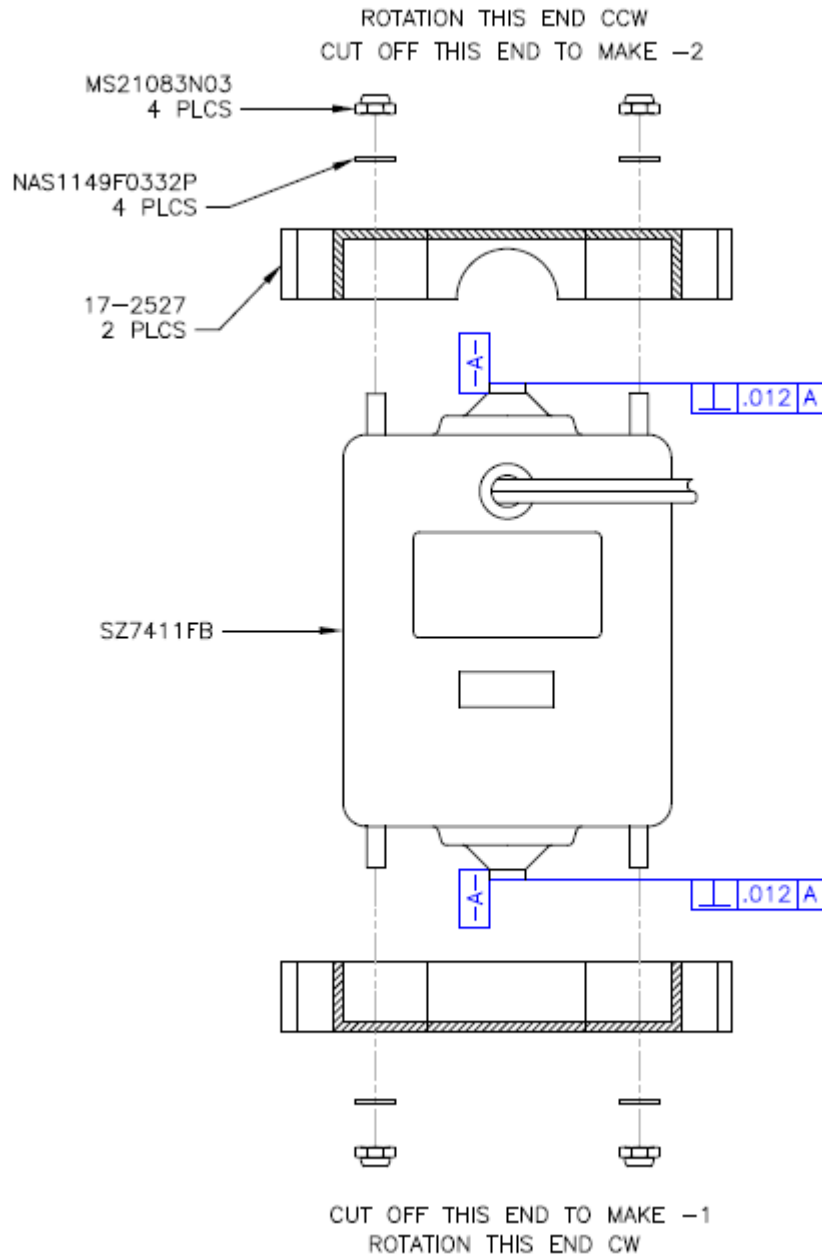

FIG. 1
9.4 After the opposite shaft has been removed place 1 each Motor Support 17-2687 on each end of the motor. Secure with one NAS1149F0332P Flat Washer and one MS21083N3 Lock Nut on each of the four studs through the two 17-2687 Motor Supports. See FIG 1.